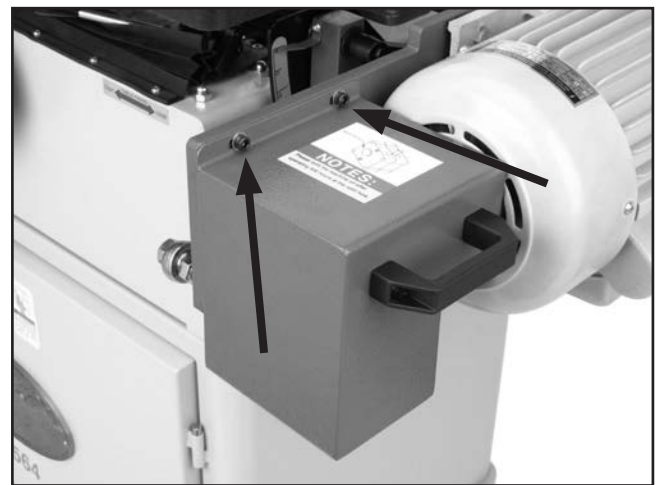

Figure 28. Gearbox cap screws.
2. Remove the cap screws on top of the gearbox cover shown in **Figure 28**.